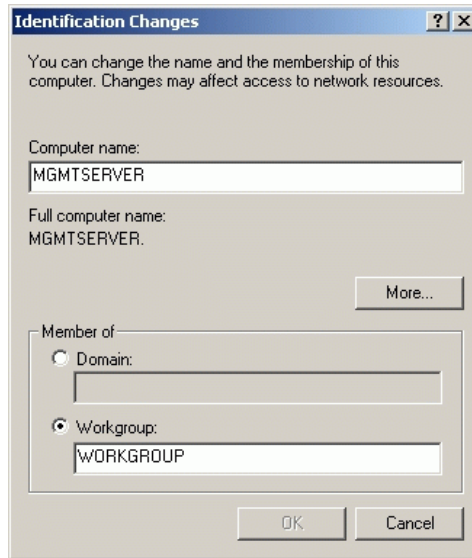

Figure D-10 Identification Changes Dialog Box
- e. Click *Properties*. The *Identification Changes* dialog box displays (Figure D-10).